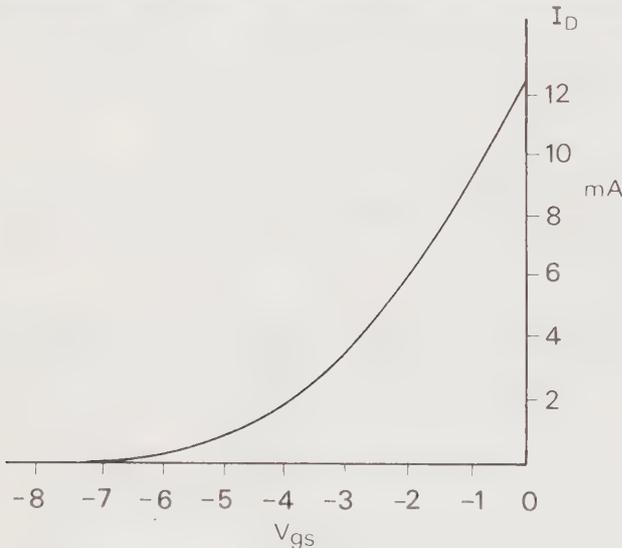

Fig. 3.11
3. The graph of channel current  $I_{ds}$  plotted against  $V_{gs}$  — the voltage between the gate and the source — is noticeably curved in a shape called a *square law* (see Fig. 3.11). This type of characteristic is particularly useful for signal mixers in superheterodyne receivers.